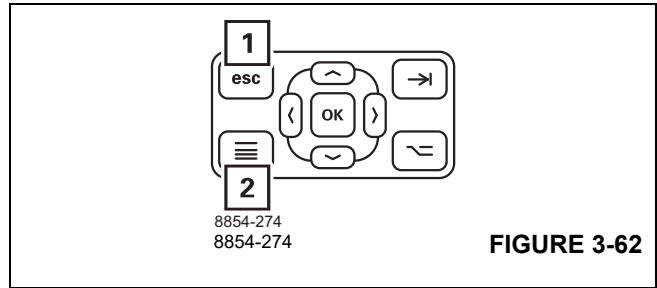

FIGURE 3-62
You can cancel the entry at any time using the (1), (Figure 3-62) or (2) buttons. The settings are then reset.